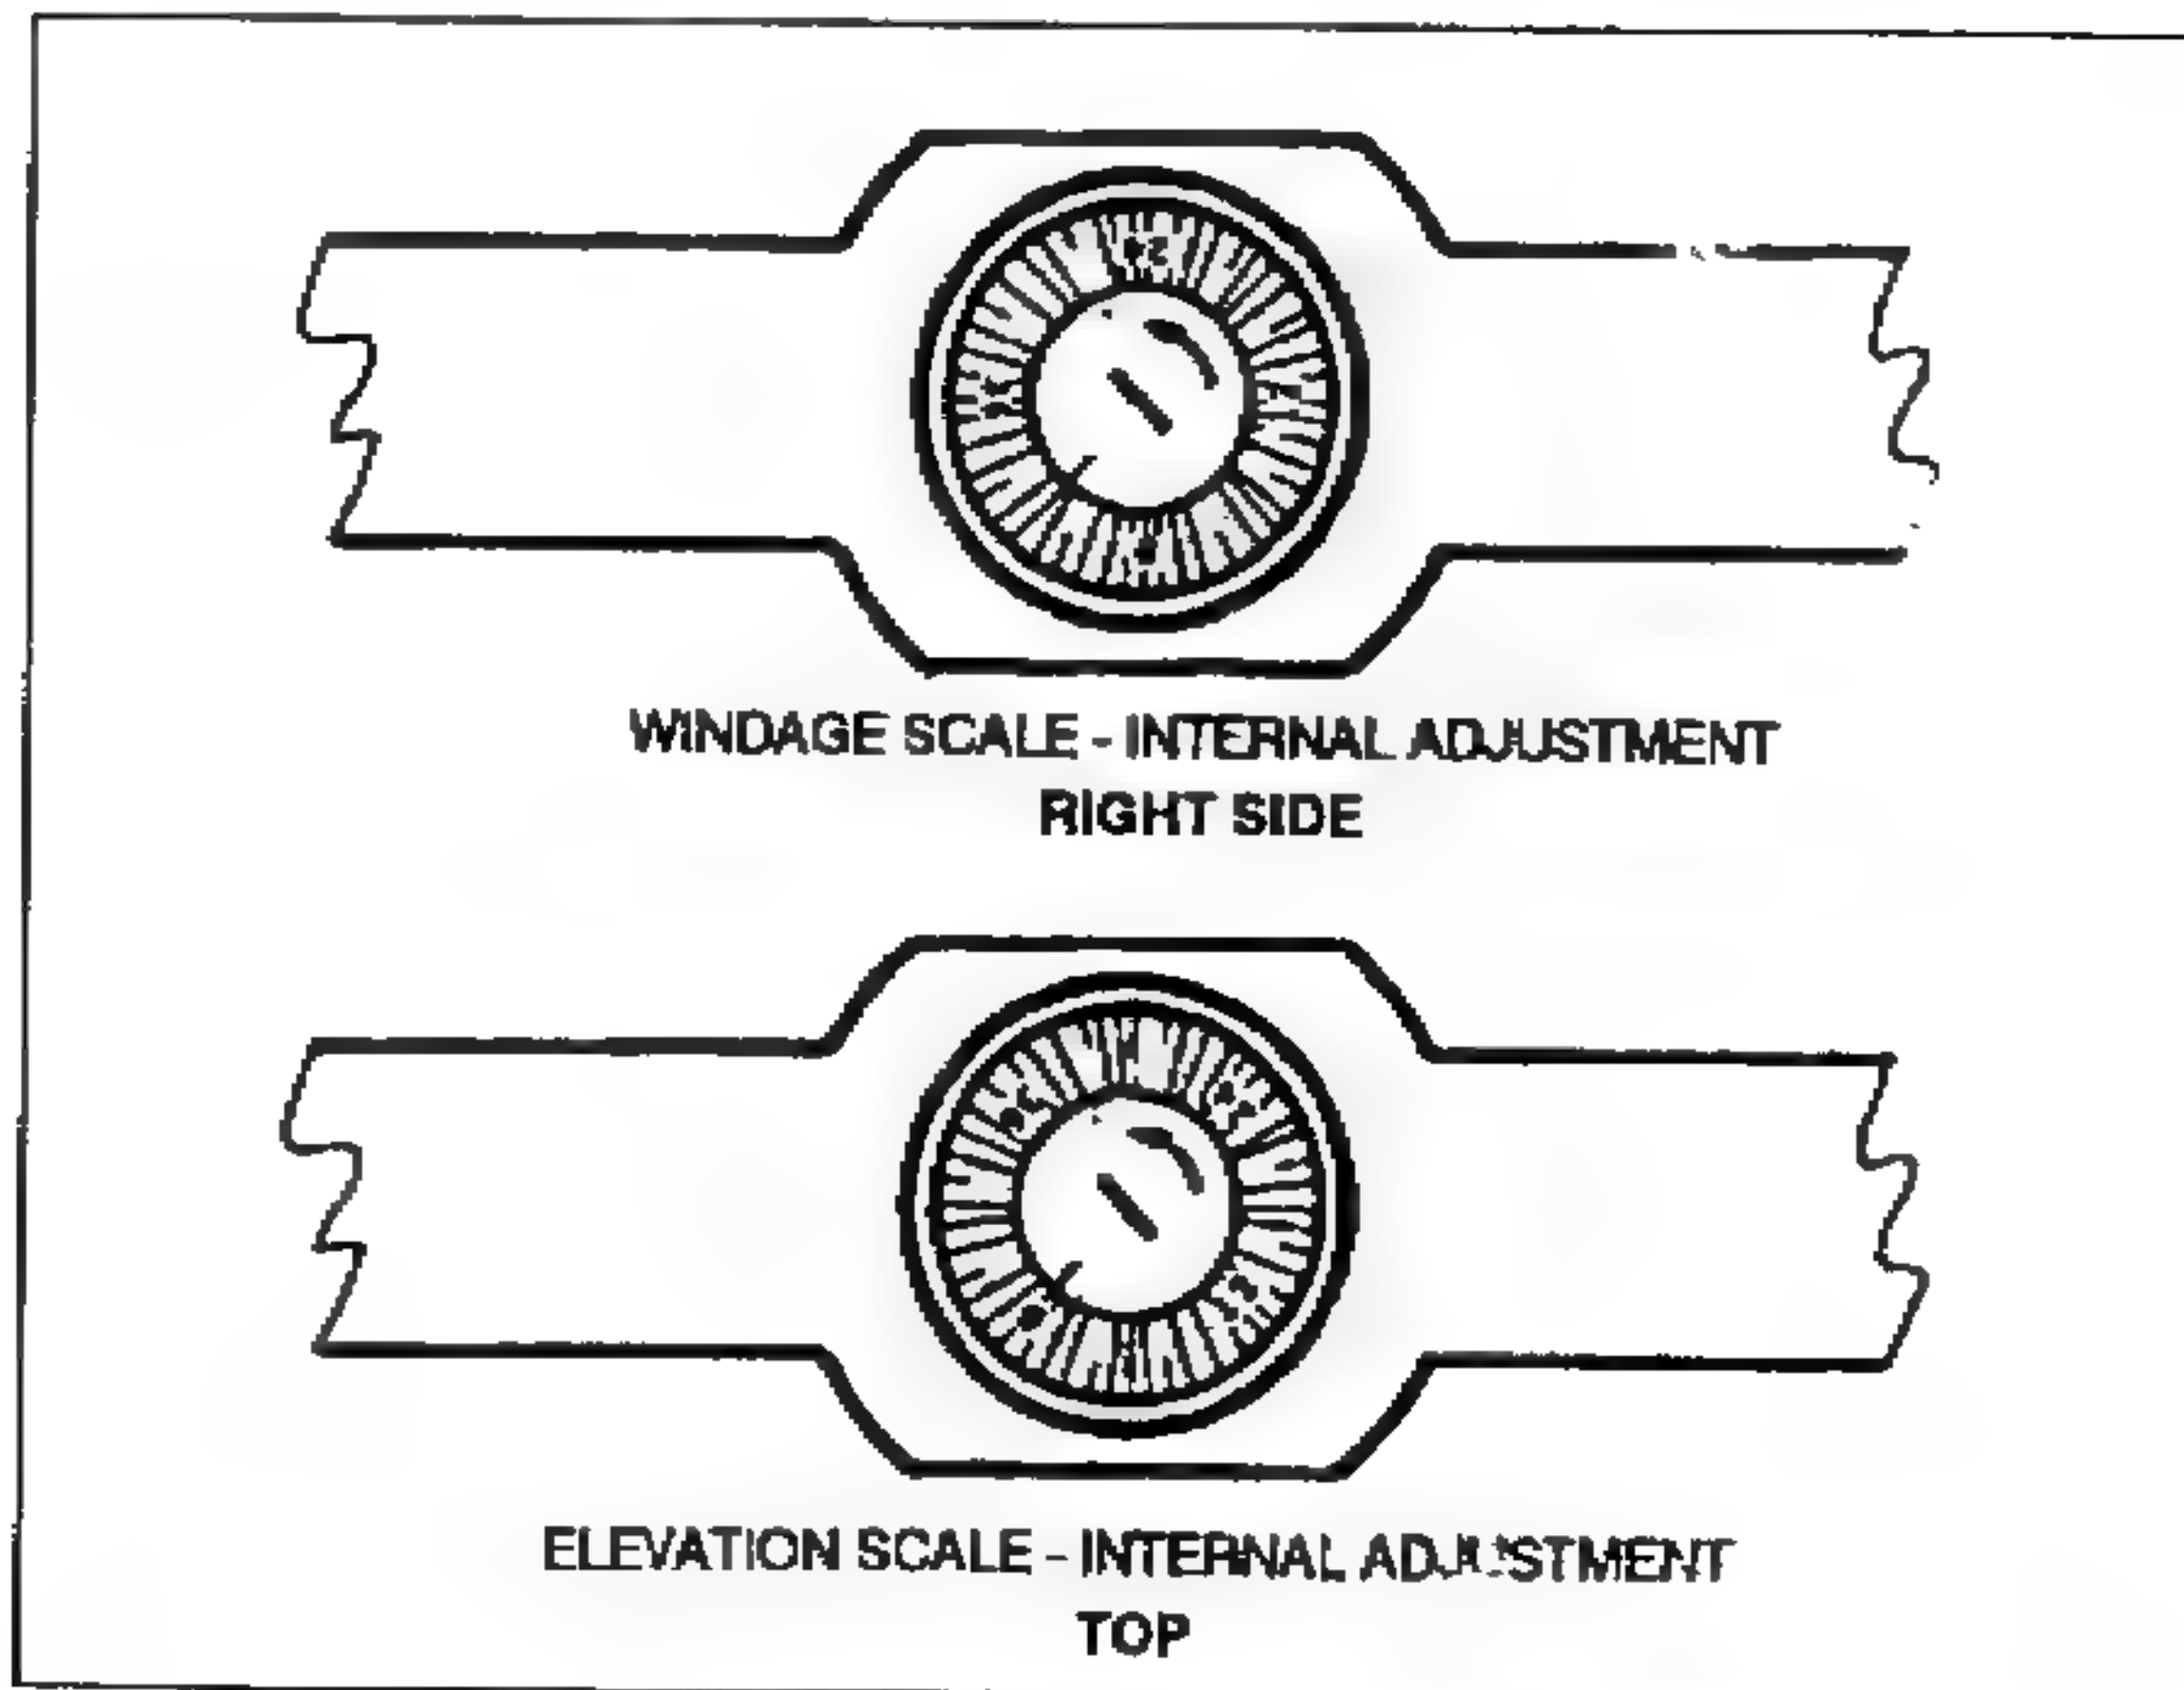

Figure B-10. Elevation and windage scales.
(1) For example, the power ring on the ART I scope can be adjusted until 30 inches of an object or a person's image (beltline to top of head) fits exactly in between the horizontal stadia lines (top stadia line touching top of the head and bottom stadia line on the beltline).
(2) Another example is to adjust the power ring on the ART II scope until 1 meter (about 40 inches) of a person's or an object's image appears equal to one of the posts in the reticle.
(3) When turning the power ring to adjust the target's image to the reticle, the sniper is also turning the ballistic cam. This raises or lowers the scope itself to compensate for elevation. Therefore, once the scope's magnification is properly adjusted in proportion to the target's image, the ballistic cam has at the same time adjusted the scope for the proper elevation needed to engage the target at that range.
(4) The ART II scope has a locking thumbscrew located on the power ring used for connecting and disconnecting the power ring from the ballistic cam. This allows the sniper to adjust the scope on target (auto-ranging mode), and then disengage the locking thumbscrew to increase magnification (manual mode) without affecting the elevation adjustment.
d. **Zeroing.** The ART scope should be zeroed at 300 meters. Ideally, this should be done on a known-distance range with bull's-eye-type targets. When zeroing the ART scope (Figure B-10), the sniper—
- (1) Removes the elevation and windage caps from the scope.
- (2) Turns the power adjustment ring to the lowest position. On the ART II scope, ensures that the locking thumbscrew is engaged and that the ballistic cam moves when the power ring is turned.
- (3) Assumes a good prone-supported position that allows the natural point of aim to be centered on the target.
- (4) Fires three rounds, using good marksmanship fundamentals with each shot.
- (5) Makes the needed adjustments to the scope after placement of the rounds has been noted. He is sure to remember—